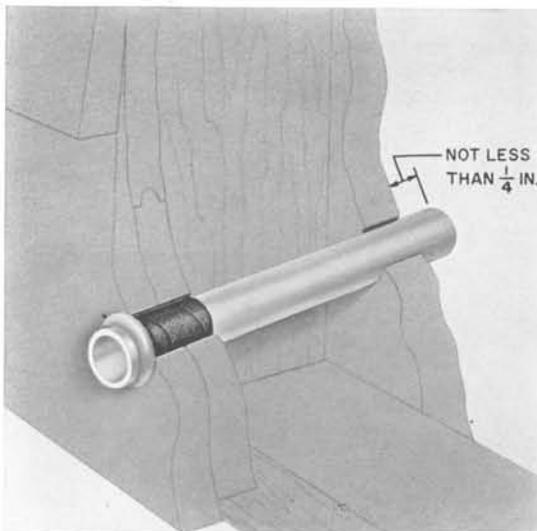

FIG. 14—PLACING TUBE
**5.01** Plastic or porcelain tubes are required at building entrance holes only if there is a possibility of severe abrasion and/or where fused protection is required and the wire passes through a flammable surface. Place tube as shown in Fig. 14. Cut porcelain tubes with a tube cutter and cut plastic tubes with a hack saw or diagonal pliers. Split tubes should not be used at entrance holes.